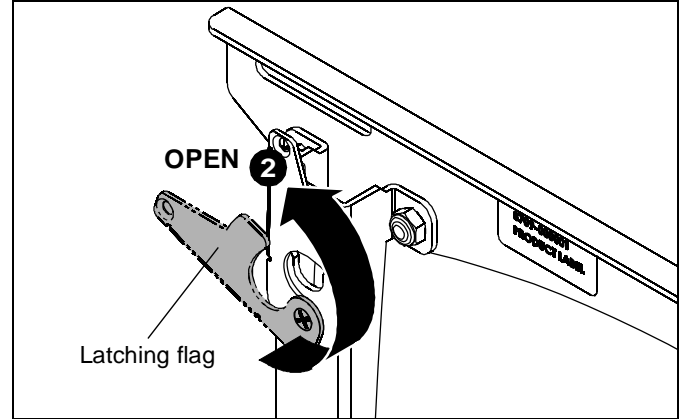

Figure 4
2. Move two latching flags on PST16 to the OPEN position. (See Figure 4)